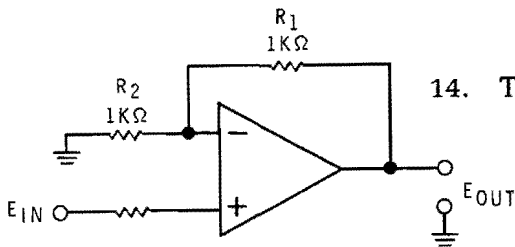

Figure 3-90
14. The circuit shown in Figure 3-90 is: